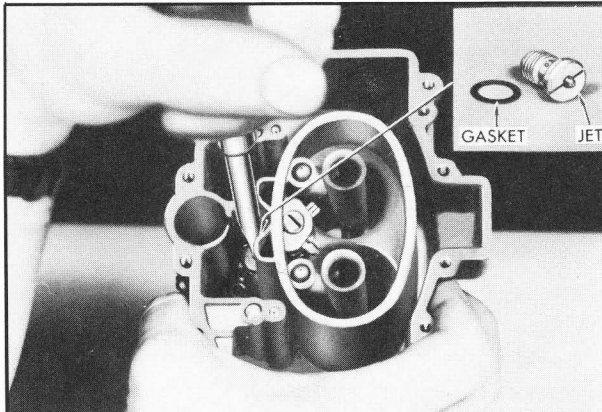

Figure 3-79—Removing By-Pass Jet
10. Remove power by-pass jet and gasket from main body, using a large screw driver. See figure 3-79.
11. Install power by-pass jet and a new gasket in main body, using a large screwdriver. See figure 3-79.